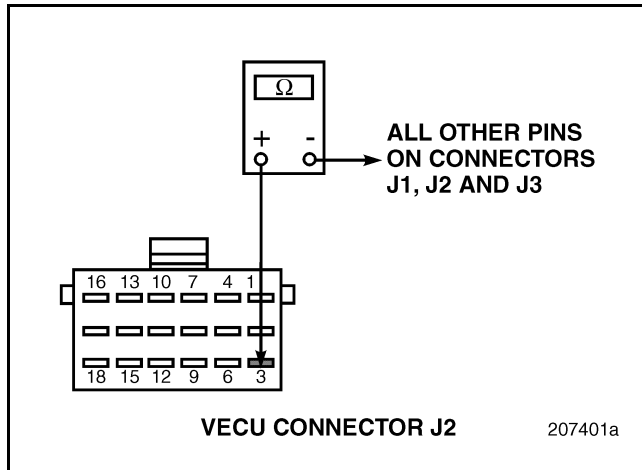

Figure 248
4. Check for continuity between Vehicle Electronic Control Unit (VECU) connector J2 pin 3 and all other pins in connectors J1, J2, and J3 (see Figure 248).